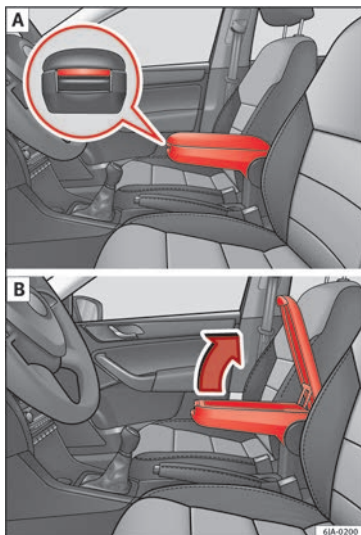

Fig. 61 Armrest/Opening and closing the storage compartment.
- Press the button located on the front of the armrest » **Fig. 61 - A**.
- Lift the storage compartment lid » **Fig. 61 - B**.